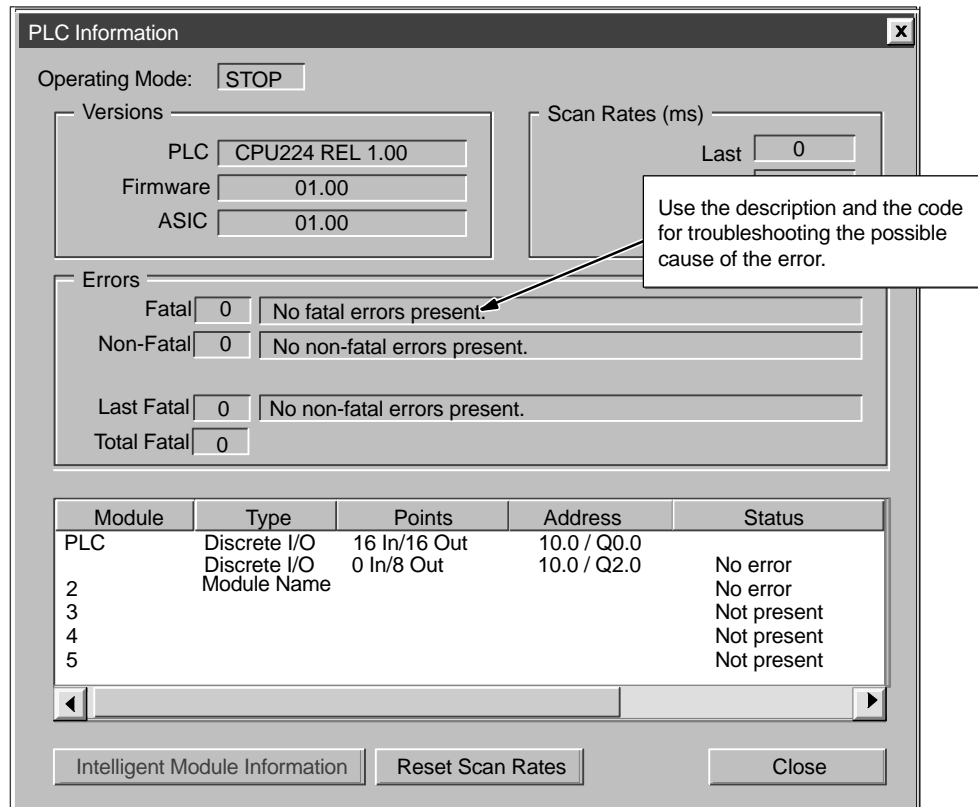

Figure 4-25 CPU Information Dialog: Error Status Tab
The S7-200 CPU classifies errors as either fatal errors or non-fatal errors. You can use STEP 7-Micro/WIN 32 to view the error codes that were generated by an error. Select **PLC > Information** from the menu bar to view these errors. Figure 4-25 shows the dialog box that displays the error code and the description of the error. Refer to Appendix B for a complete listing of the error codes.
In Figure 4-25, the Last Fatal field shows the previous fatal error code generated by the CPU. This value is retained over power cycles if the RAM is retained. This location is cleared whenever all memory of the CPU is cleared, or if the RAM is not retained after a prolonged power outage.
Non-fatal errors can degrade some aspect of the CPU performance, but they do not render the CPU incapable of executing your program or updating the I/O. As shown in Figure 4-25, you can use STEP 7-Micro/WIN 32 to view the error codes that were generated by the non-fatal error. There are three basic categories of non-fatal errors:
- **Program execution errors.** Your program can create error conditions while the program is being executed. For example, an indirect-address pointer that was valid when the program compiled may be modified during the execution of the program to point to an out-of-range address. This is considered a run-time programming error. Use the dialog box shown in Figure 4-25 on page 4-43 to determine what type of error occurred.